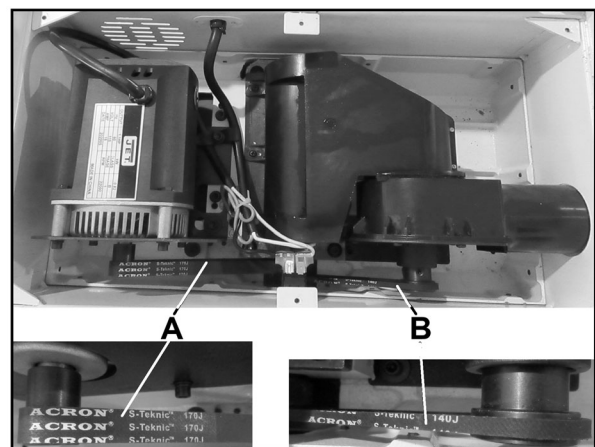

Figure 12-1
2. Lay the jointer on its side so that the switch is facing upward. See Figure 12-1.
5. Remove the fan belt (B, Figure 12-1) from the cutter head pulley first, then the drive belt. Pull the belt towards you and turn the belt at the same time until it rolls off the pulleys.